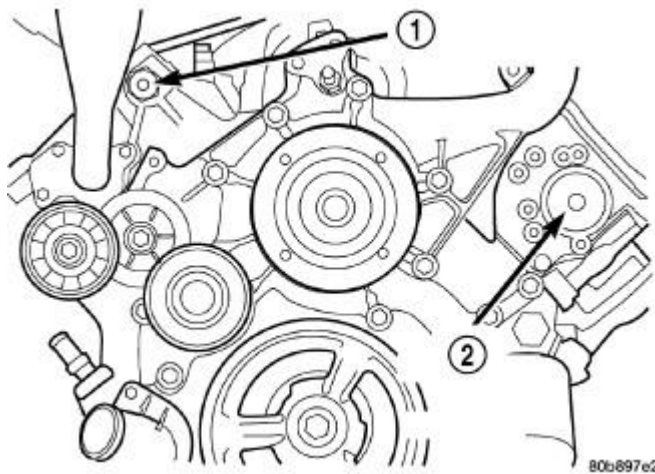

Fig. 46: Access Plugs From Left And Right Cylinder Heads
18. Remove the cylinder head access plug (1, 2). Refer to **Fig. 46**.